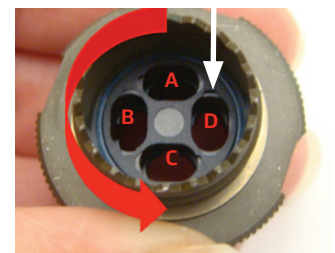

Figure 36: Rear view with insertion orientation
- b. Align the green/green-white pair's orientation keyway (i.e., the beige key), and insert it in position A, being careful not to insert it at an angle (Figure 36).